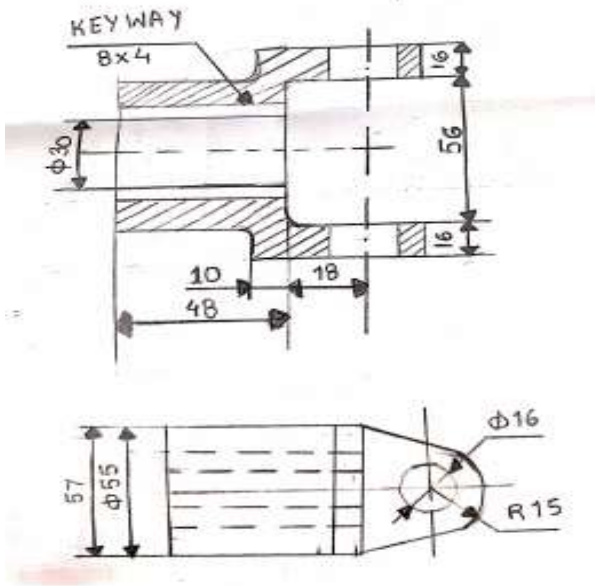

Figure.1
b) A profile milling operation is to be performed to generate the outline of the part as shown in fig. 1. The part thickness is 15 mm, cutter diameter is 14 mm and cutter speed is 500rpm. Write down the complete APT programme consisting of:- 10